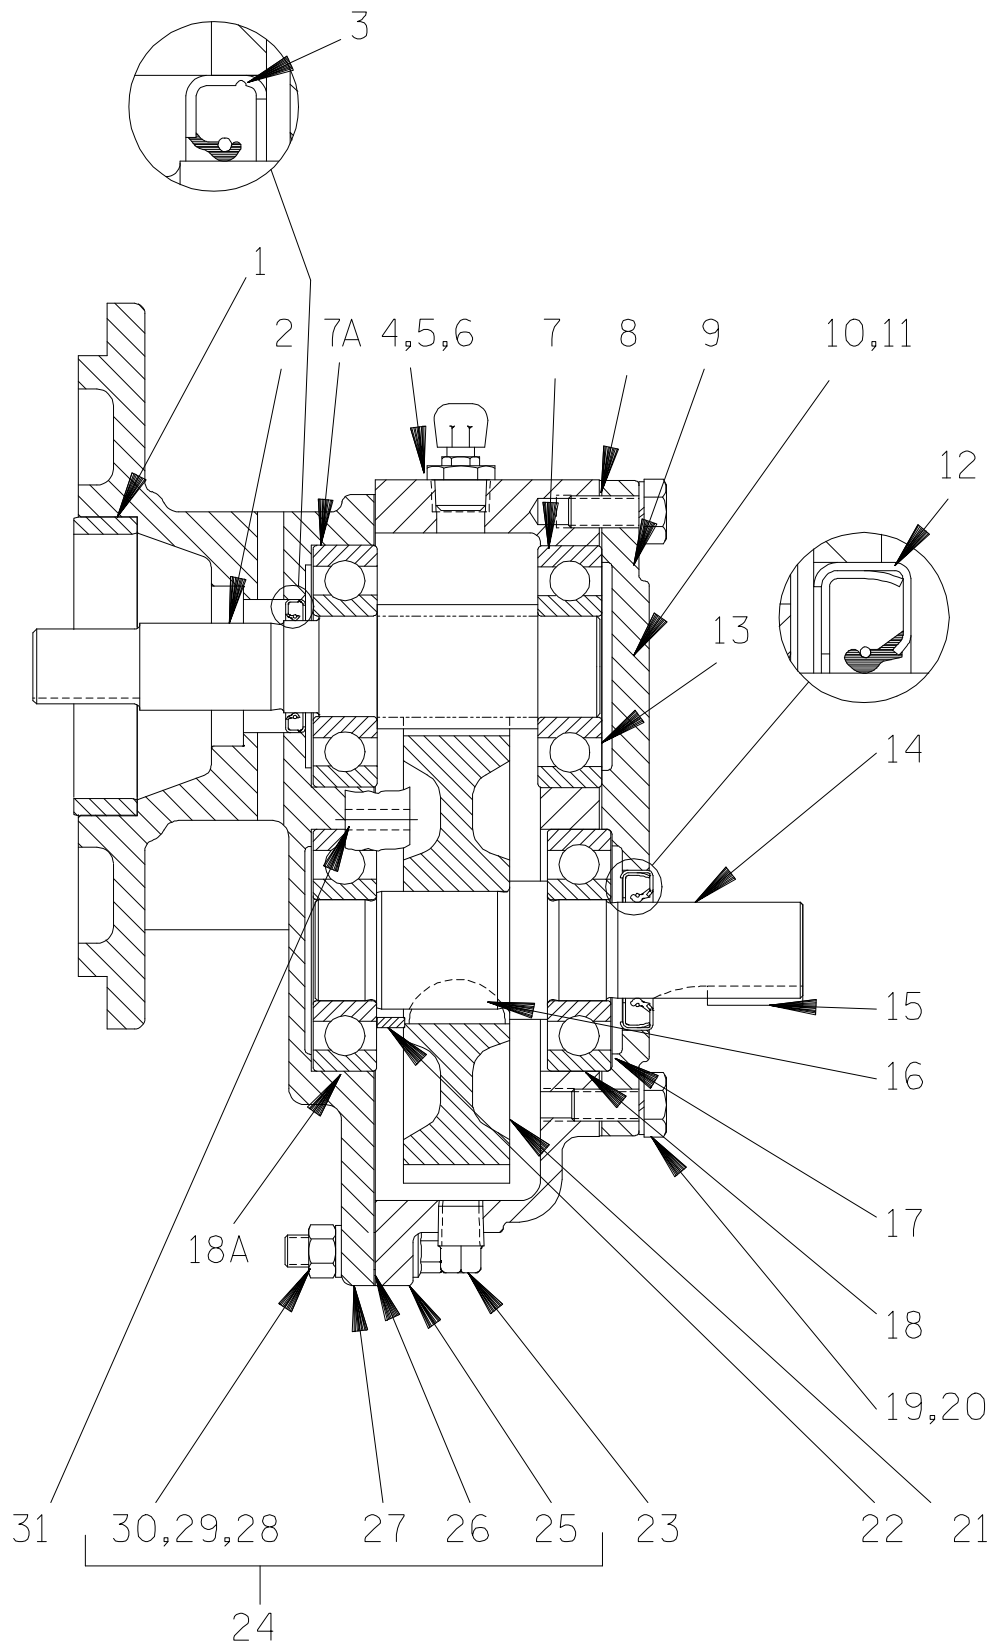

Figure 2. 44161-014 Gearbox Assembly
To service the impeller, wear ring or seal assembly, the pump casing (1) must be separated from the seal plate (27, Figure 2).
To loosen the impeller screw (21), immobilize the drive shaft (14, Figure 2). Remove the impeller screw, lockwasher (22), and impeller washer (19).